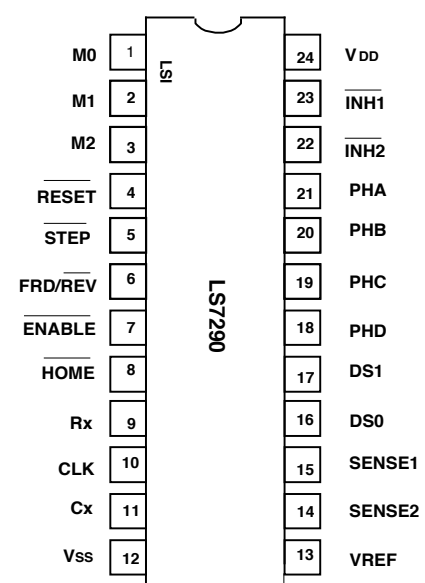

FIGURE 1
- LS7290 (DIP), LS7290-S (SOIC), LS7290-TS (TSSOP) - **See Figure 1** -